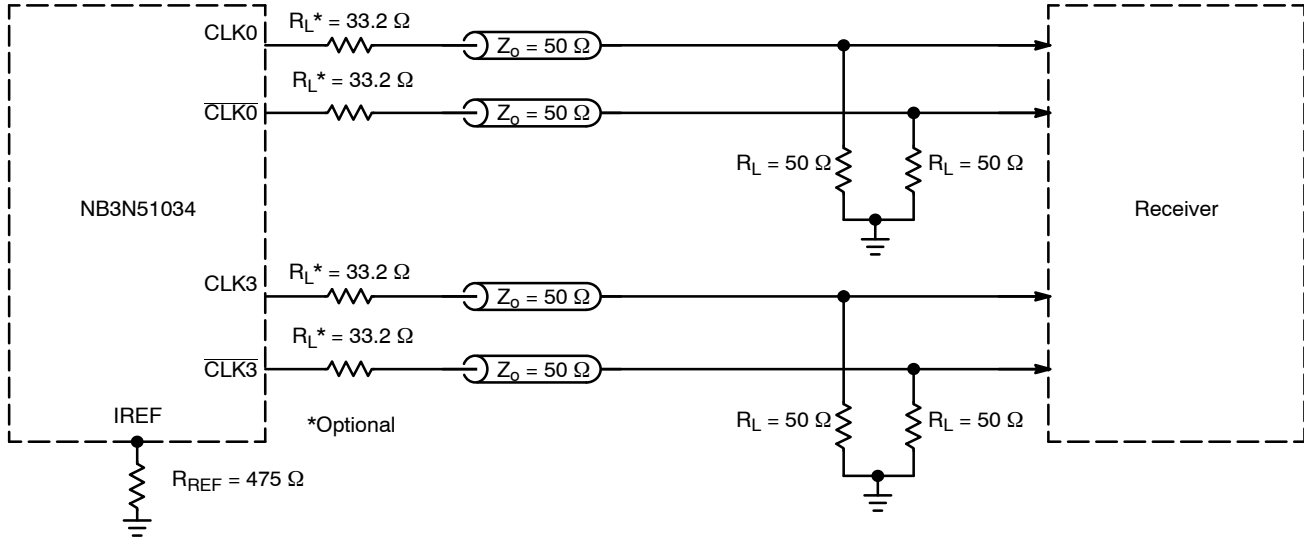
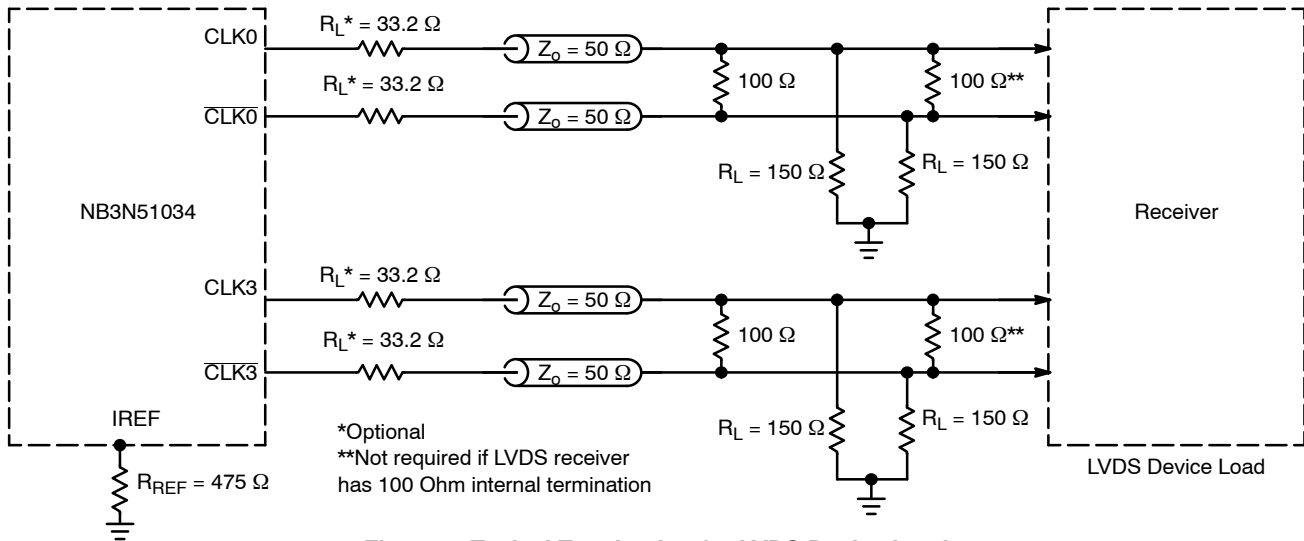

Figure 7. Typical Termination for HCSL Output Driver and Device Evaluation
Figure 8. Typical Termination for LVDS Device Load
4. VDDXD and VDDODA power pins must be shorted to power supply voltage VDD and GNDXD and GNDODA ground pins must be shorted to power supply ground GND. Measurement taken with outputs terminated with RS = 33.2 Ω, RL = 50 Ω, with test load capacitance of 2 pF and current biasing resistor set at 475 Ω. See Figure 7. Guaranteed by characterization.
12. VDDXD and VDDODA power pins must be shorted to power supply voltage  $V_{DD}$  and GNDXD and GNDODA ground pins must be shorted to power supply ground GND. Measurement taken from differential output on single-ended channel terminated with  $R_S = 33.2\ \Omega$ ,  $R_L = 50\ \Omega$ , with test load capacitance of 2 pF and current biasing resistor set at 475  $\Omega$ . See Figure 7. Guaranteed by characterization.
19. VDDXD and VDDODA power pins must be shorted to power supply voltage  $V_{DD}$  and GNDXD and GNDODA ground pins must be shorted to power supply ground GND. Measurement taken from differential output on single-ended channel terminated with  $R_S = 33.2\ \Omega$ ,  $R_L = 50\ \Omega$ , with test load capacitance of 2 pF and current biasing resistor set at 475  $\Omega$ . See Figure 7. This parameter is guaranteed by characterization. Not tested in production.
The outputs can be terminated to drive HCSL receiver (see Figure 7) or LVDS receiver (see Figure 8). HCSL output interface requires 49.9  $\Omega$  termination resistors to GND for generating the output levels. LVDS output interface may not